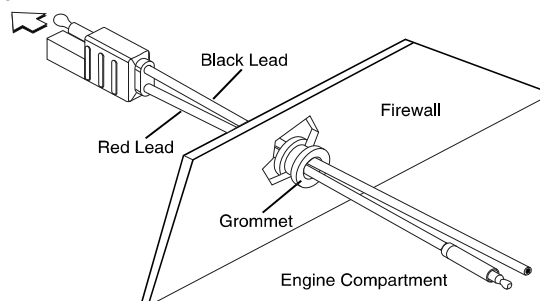

Figure 7.
2. In order to pass the power cable through the fire wall and into the engine compartment, locate an existing hole with a grommet in the vehicle fire wall, or drill a 10 mm (0.4 inch) access hole at the desired location. Insert a grommet with a 5 mm (0.2 inch) inner diameter into the access hole to avoid damage to the cable (see Figure 7).